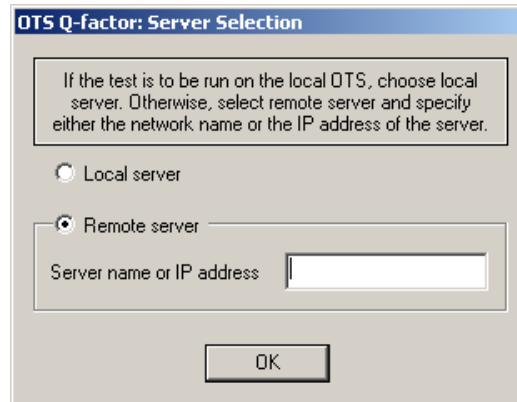

Figure 2-19: Server Selection dialog box
2. From the server selection dialog box, as shown in Figure 2-19, select the name of the OTS system to be tested.